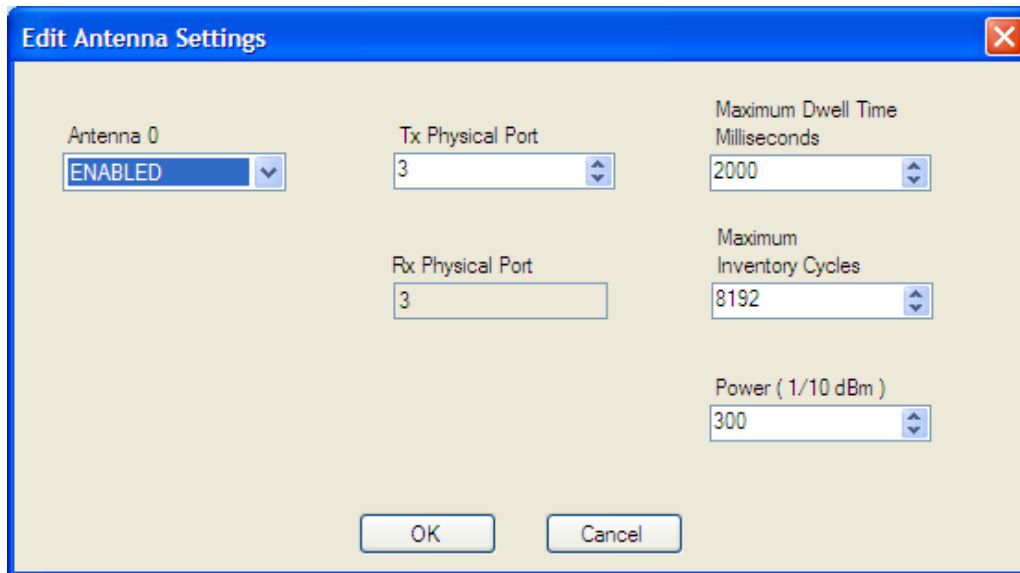

Figure 9 Antenna Logical Settings
Step 4: To change the setting for a logical antenna, click on the edit button in the first column of the grid. This will bring up the dialog box shown in Figure 9.